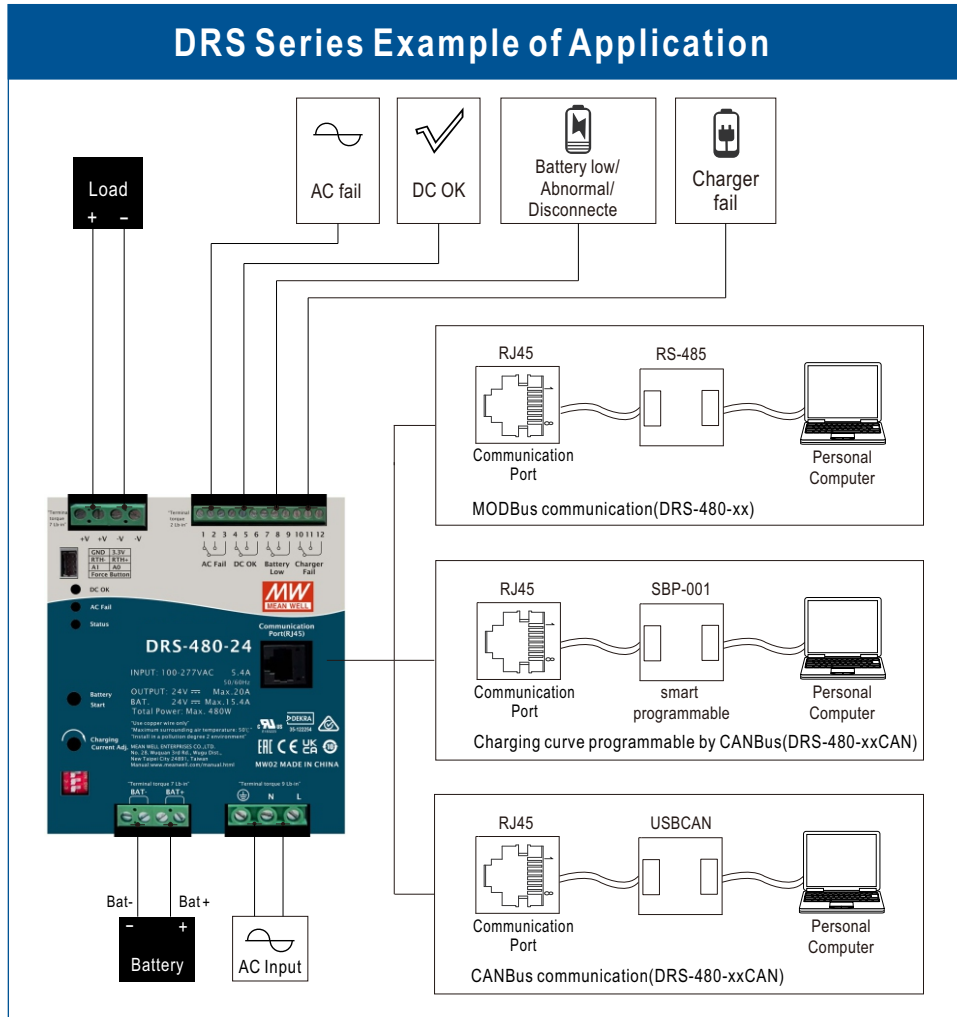

Fig 2.1 Suggested system connection
(1) Please refer to Fig2.1 for suggested connection.